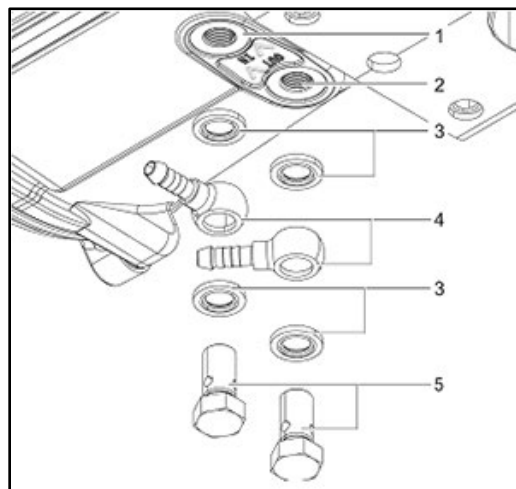

Fig. 13: Fuel connections at heater
CAUTION: The sealing gaskets (item 3, fig. 13) must be replaced any time the fuel banjo bolts (item 5, fig. 13) are serviced or re-oriented. Two (2) gaskets per banjo bolt. Failure to follow this instruction may result in fuel leaks, possibly resulting in a fire.